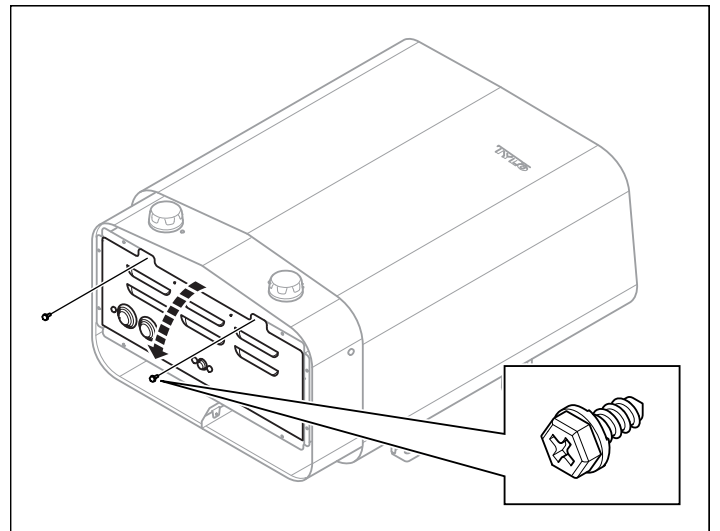

Figure 5: Opening/closing the cover
2. Slacken the screws and open the cover (see Figure 5).
4. Close the cover and tighten the screws (see Figure 5).